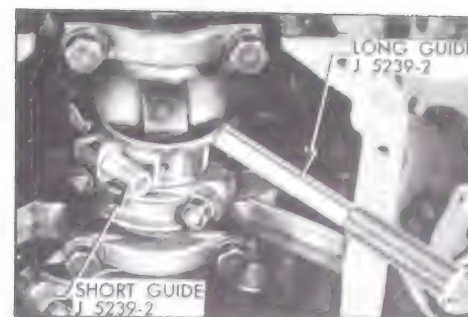

Figure 2-41—Connecting Rod Bolt Guides Installed
4. With No. 1 crankpin straight down, remove the cap with bearing shell from No. 1 connecting rod, then install the short Connecting Rod Bolt Guide J-5239-1 on the lower connecting rod bolt, and install the long Guide J-5239-2 on the opposite bolt, above crankpin. Turn guides down to hold the bearing upper shell in place. See Figure 2-41.
12. Insert piston and rod assembly into its cylinder bore with the long guide pin placed above the crankpin. Push the assembly down until the rod bearing seats on crankpin. See Figure 2-41.